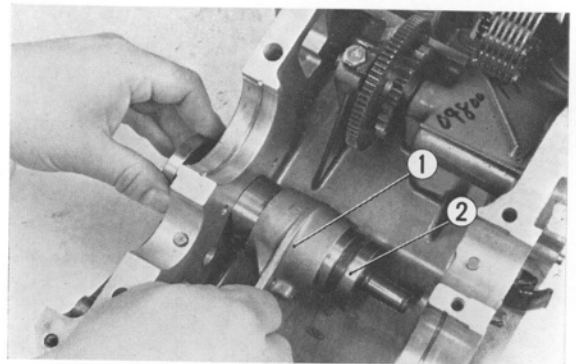

Fig. 368 ① Center gearshift fork ② Drum
3. Put the right and left gearshift forks in the upper crankcase and insert the gearshift fork shaft as shown in Fig. 368.